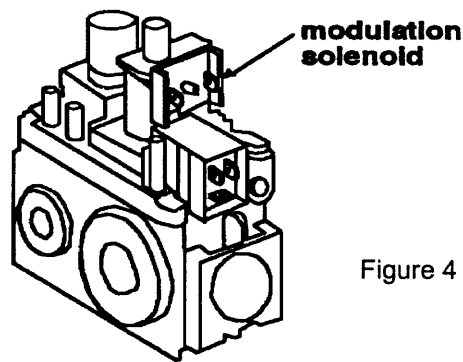

Figure 4
6. Plug the red cable label fan to the blower. Plug the orange cable labeled "Solenoid" to the modulation solenoid of the gas valve. See Fig. 4.